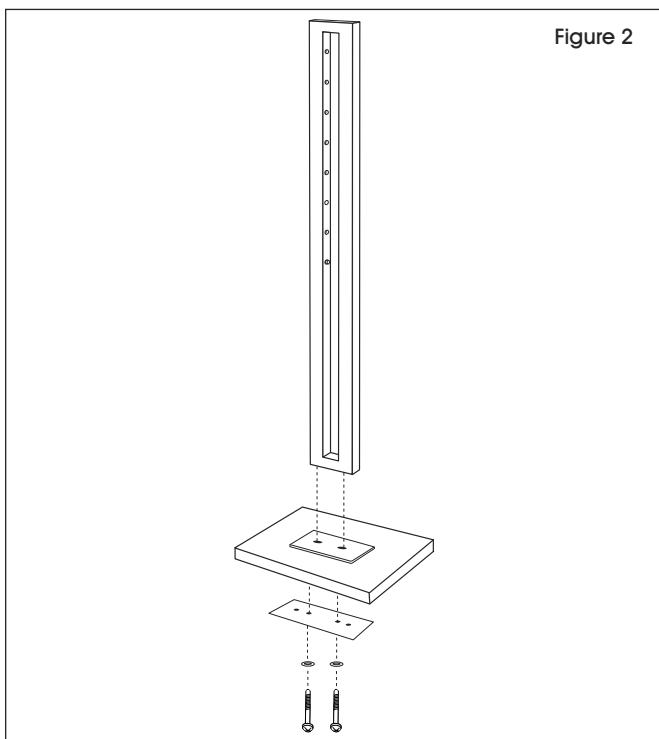

Figure 2
2. From below, attach metal spacer, plastic base, base cover and nameplate to post with bolts and lock washers provided. (See Figure 2)